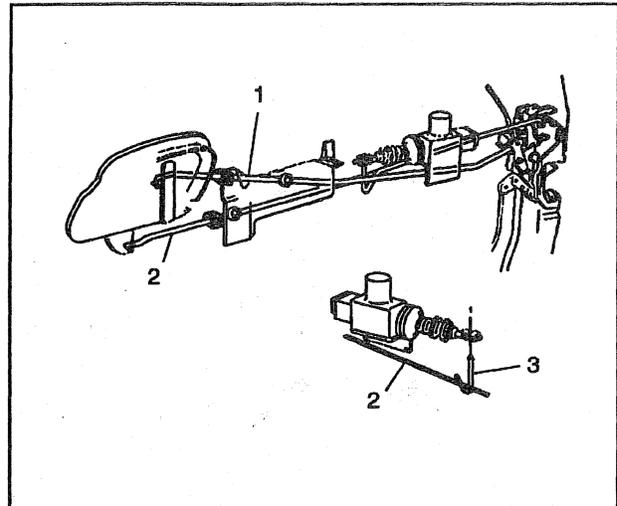

Figure 72—Rear Side Door Lock Actuator Control Rod
- Lock rod (3) from lock assembly rod clip (figure 72).
#### ↔ Remove or Disconnect (Figure 72)
- Actuator lock control rod (1) (figure 72).
#### ↔ Install or Connect (Figure 72)
#### ↔ Remove or Disconnect (Figures 72, 73 and 74)
4. Lock cylinder rod (1) from the rod clip (figure 72).
5. Outside handle rod (2) from the rod clip.
**→← Install or Connect (Figures 72, 73 and 74)**
4. Outside handle rod (2) from the rod clip (figure 72).
5. Lock cylinder rod (1) from the rod clip.